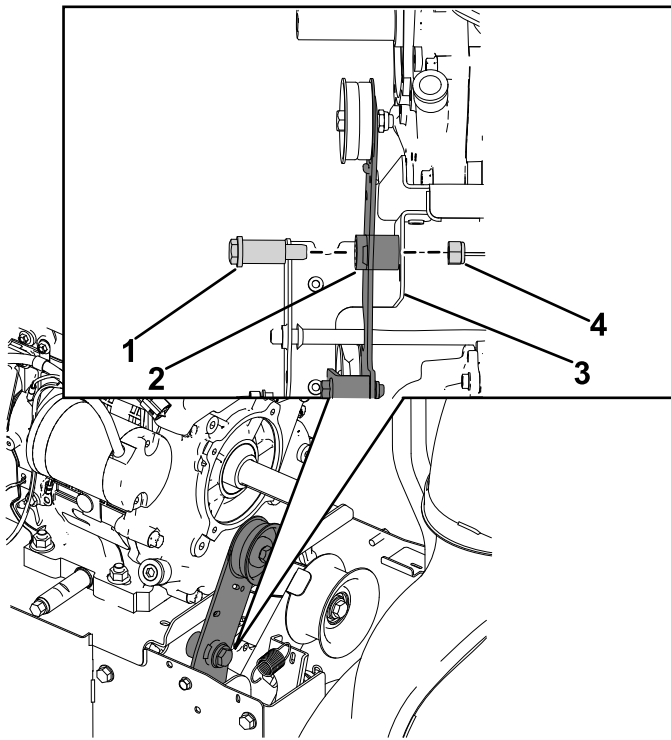

Figure 19
5. Install the traction clutch arm assembly to the brake clutch bracket, secure with the new shoulder bolt (7/16 x 1-3/4 inches) and locknut (7/16 inch) (Figure 19).